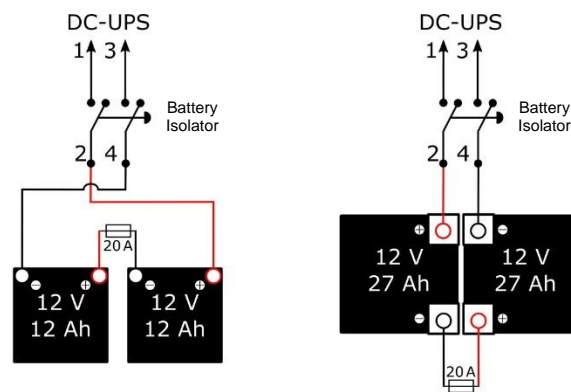

Figure 48. Battery Connections
1. Ensure that the Battery Isolator switch is correctly connected to the TPPR DC-UPS and is switched **Off** (Fig 48).